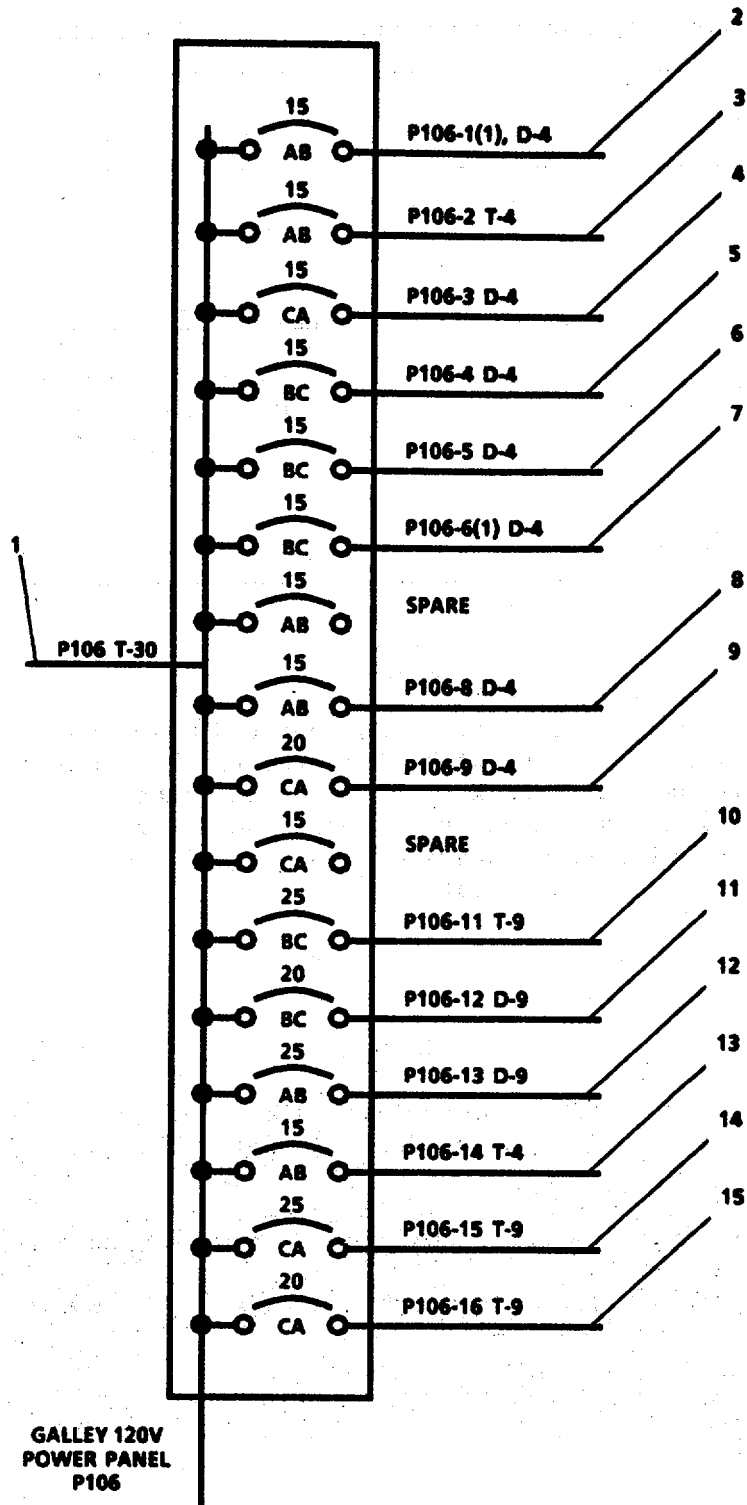

FIGURE 3-155. Power Distribution Panel P106.
**3-170. Repair Power Distribution Panel P106. (Figure 3-155)**